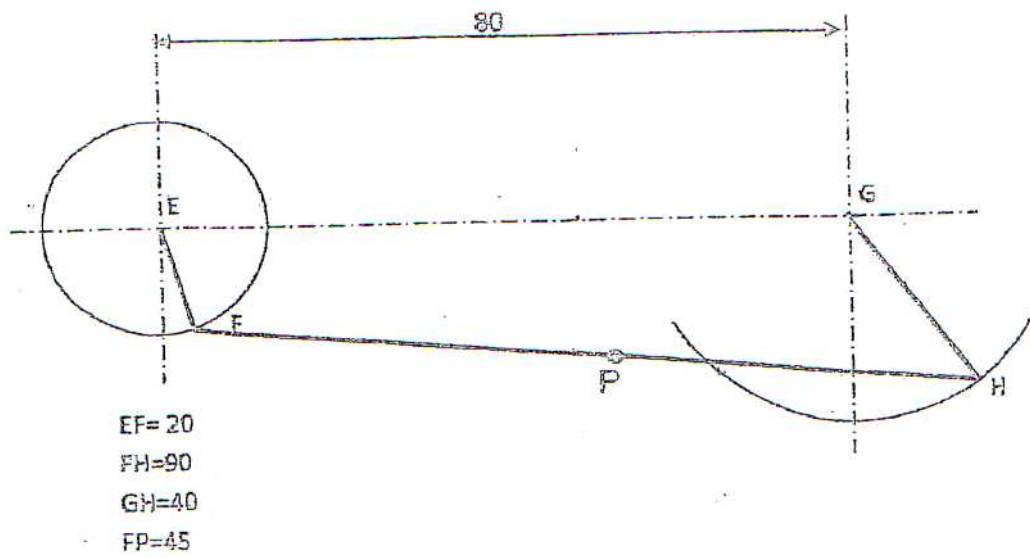

Figure 9
13. In the mechanism shown in figure 9, the crank EF rotates about centre E while GH oscillates about G.